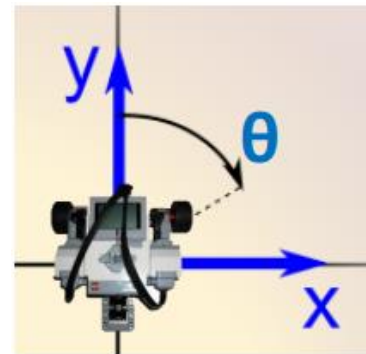
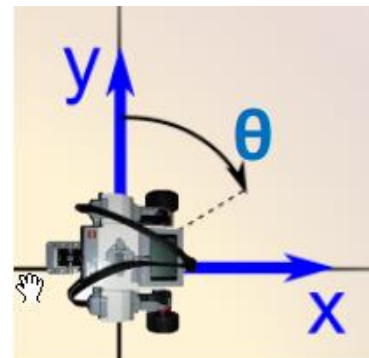

Figure 1. Robot faces north at  $0^\circ$ .
Figure 2. Robot faces east at  $90^\circ$ .
E.g. if the ( $X$ ,  $Y$ ,  $\theta$ ) convention is set as in Figure 1, then:
E.g. if the ( $X$ ,  $Y$ ,  $\theta$ ) convention is set as in Figure 2, then:
### **5. Do I have to follow the same (X, Y, $\theta$ ) convention as in Figure 1 and Figure 2?**
The robot's initial condition is based on your (X, Y,  $\theta$ ) convention - you must inform the TA about your initial orientation. Once the float motors option is selected on the robot, the TA will place your robot on a table. Assuming the same convention as in Figure 1, the TA will forcefully rotate both the wheels forward to test the Y values. Note that the robot will not move automatically, but rather the TA will rotate both wheels using his/her hands. The TA wants to notice whether the Y-value will increase or not, without affecting the X and  $\theta$  values by much (since they could be affected due to experimental error). Therefore, the odometer's accuracy is irrelevant here. The main idea is to observe whether the odometer functions well using a fixed convention. A similar wheel-rotation test is also performed for checking decreasing values as well as for other variables.